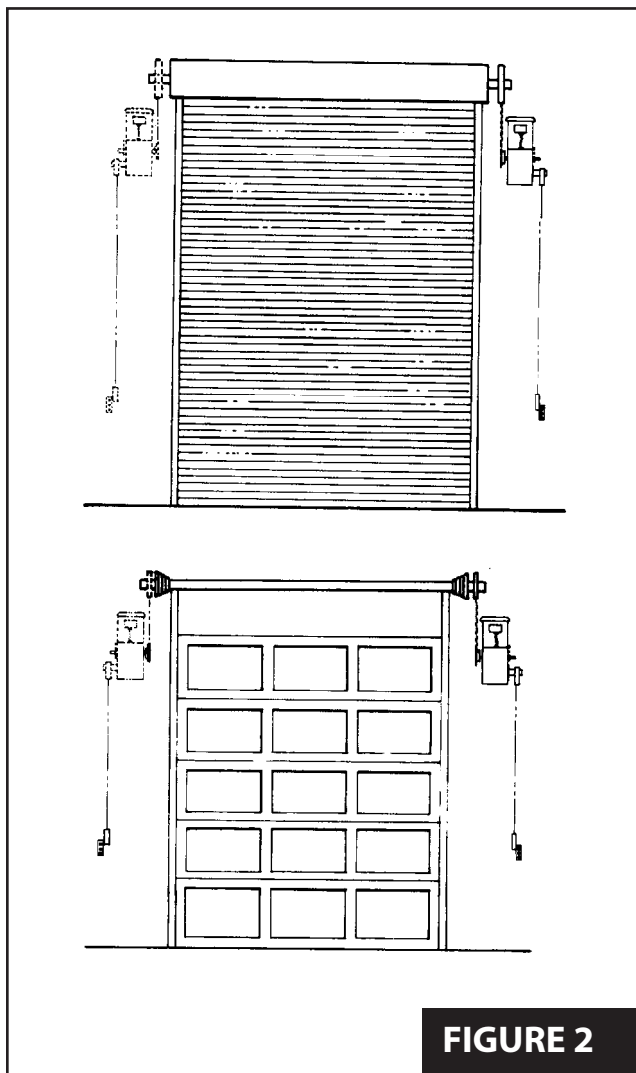

FIGURE 2
1. **Figures 2 and 3** illustrates several positions suitable for mounting the operator: Right Hand or Left Hand Wall Mount or Horizontal (shelf) Mount to the torsion shaft. For sectional doors, the MG operator must be wall mounted. For rolling steel doors, the operator must be wall mounted or hood mounted by using an optional hood mounting bracket **[Item 11]**. A wall mounting plate **[Item 12]** is also available from the factory (see **Figure 1**). The mounting plate/bracket provides for chain tension adjustment as well as aiding installation.